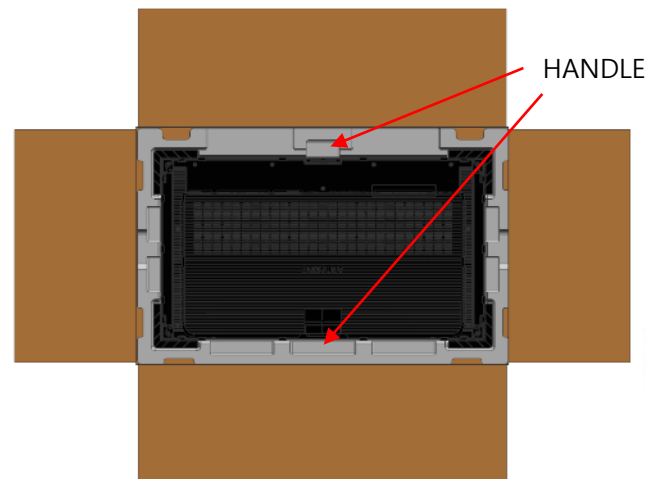

Fig. 2 Opening up
- ① Remove the Box tape at the upper area and then open up the box. (Fig.2)
- ② Remove the Top-Cushion and hold the handle inside PE-Bag and pull out the set then remove PE bag.
(Fig.2)